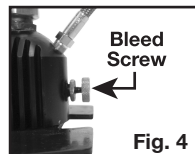

Fig. 4
- Make certain the bleed valve on the hand pump is fully closed (tighten in a clockwise direction) (fig.4).